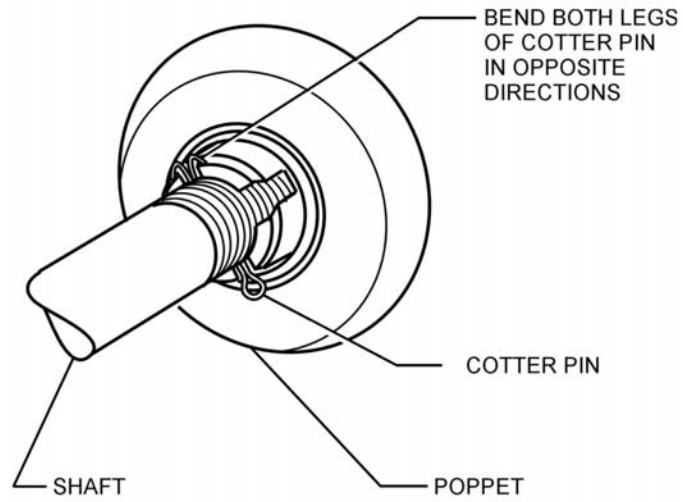

FIGURE 5
- E. Item numbers referred to in this section are those used in Figure 5.
11.3 FAILURE MODES AND EFFECTS ANALYSIS (FMEA) – Refer to Figure 5 for component numbers mentioned in column one.